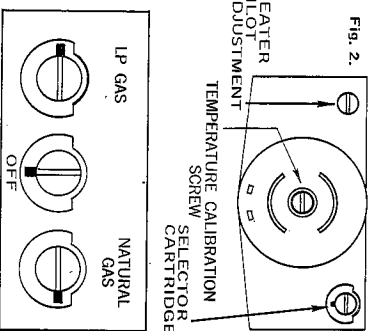

Fig. 2.
**Adjustable Thermostat**—If your range is equipped with this type thermostat, you have a pilot SELECT-A-GAS KEY cartridge with a pin stop and two pilot adjustment screws (see illustration for their location). See Fig. 2.
1. Turn thermostat dial to approximately 350° setting. This opens thermostat and allows gas to flow to the heater pilot. See Fig. 2.
<ol style="list-style-type: none"> <li>1. ■ Oven too hot (burns food)</li> <li>■ Oven burner won't shut off</li> <li>■ No gas to oven pilots</li> </ol>	<p>A. Check the pilot Select-A-Gas Key cartridge to be sure it's set for the type of gas being used. (See pilot adjustment for instructions.) See Fig. 2.</p>